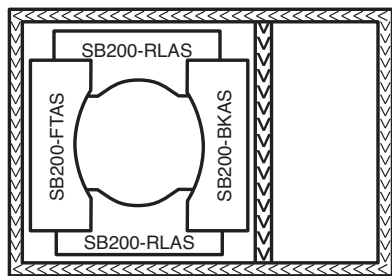

Fig. 1
slide (part # SB200-BKAS) to the back baffle of stoker base. Using 2-1/4 x 3/4 (F) Black hex bolts and 2- 1/4" (J) Zinc nuts. Assemble front ash slide (part #SB200-FTAS) to front panel of stoker base. Using 2- 1/4 x 3/4 (F) Black hex bolt and 2- 1/4" (J) Zinc nuts. See Fig. 1.